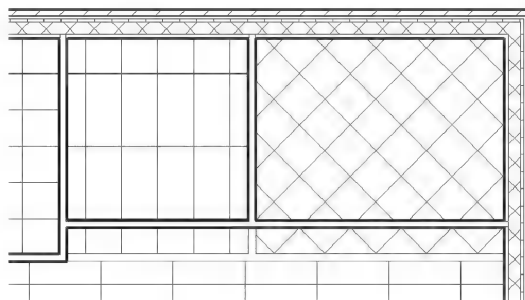

FIGURE 8-2.6 Level 1 RCP – north-east corner
*NOTE: The ceiling grids are likely not aligned with the revised walls. If this is the case, see the explanation below (Figure 8-2.6).*